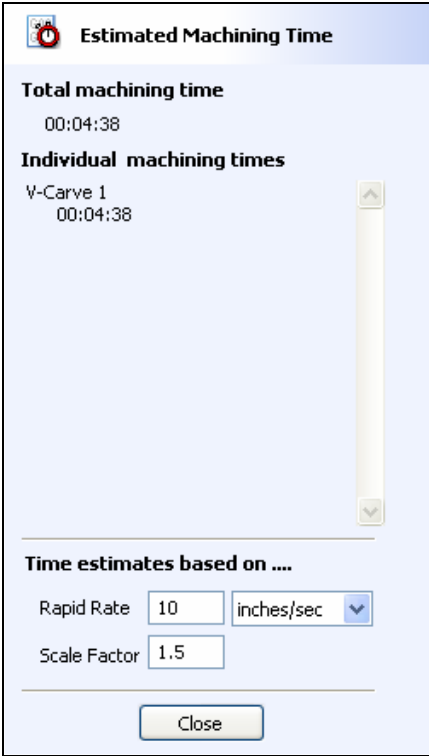

Figure 10. Finished Sign shown in Oak + No Fill and Slate + Fill
11. The finished design can be shaded in different Material types and Fill Colors as shown below in Figure 10 below which shows the sign in Wood and Slate with a painted fill.